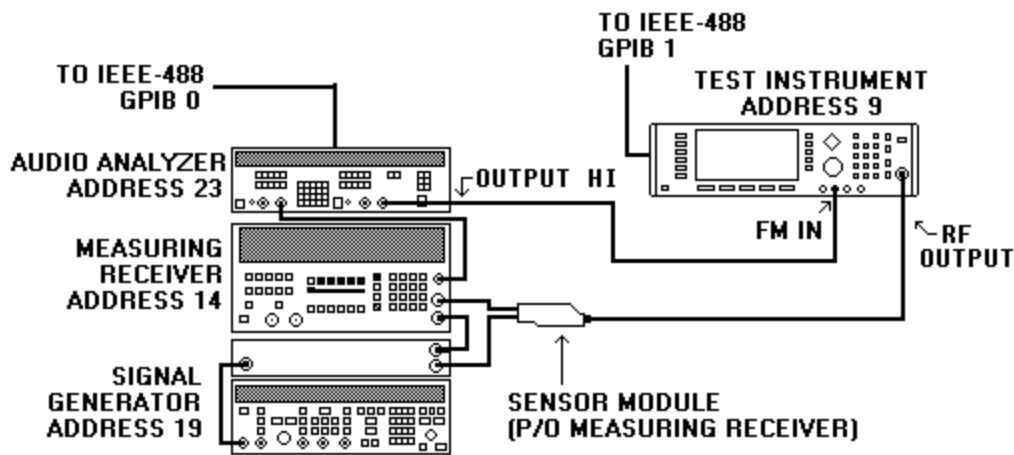

Figure 5. Frequency modulation hookup.
(1) Connect equipment as shown in figure 5 below.